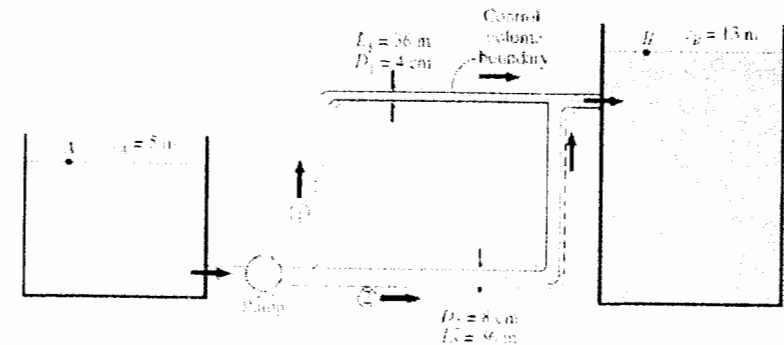

FIG 2
- b) Water at 20°C is to be pumped from a reservoir ($Z_A = 5 \text{ m}$) to another reservoir at a higher elevation ($Z_B = 13 \text{ m}$) through two 36 m long pipes connected in parallel, as shown in FIG 2. The pipes are made of commercial steel, and the diameters of the two pipes are 4 and 8 cm. Water is to be pumped by a 70 percent efficient motor-pump combination that draws 8 kW of electric power during operation. The minor losses and the head loss in pipes that connect the parallel pipes to the two reservoirs are considered to be negligible. Determine the total flow rate between the reservoirs and the flow rate through each of the parallel pipes.